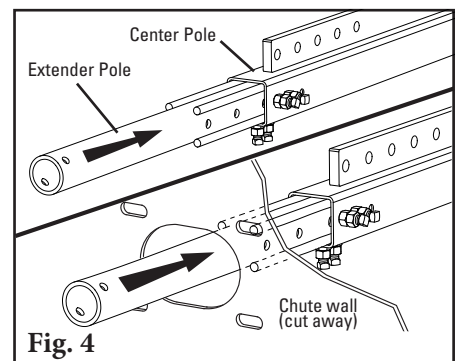

Fig. 4
The blade should be tensioned until the gap is gone (Fig. 4).
4. **Assemble the extender poles to the center pole.** Insert the extender poles through the chute holes and into the center pole (Fig. 4). Leave the locking bolts loose.